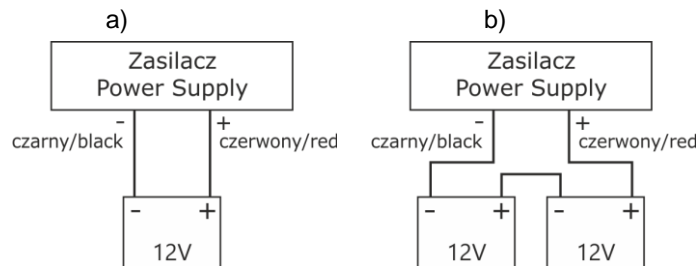

Fig. 5. Connecting batteries depending on voltage version of power supply:
4. Install battery/batteries in a designated area of enclosure. Connect batteries with PSU paying special attention to correct polarity and type of connections (Fig. 5):